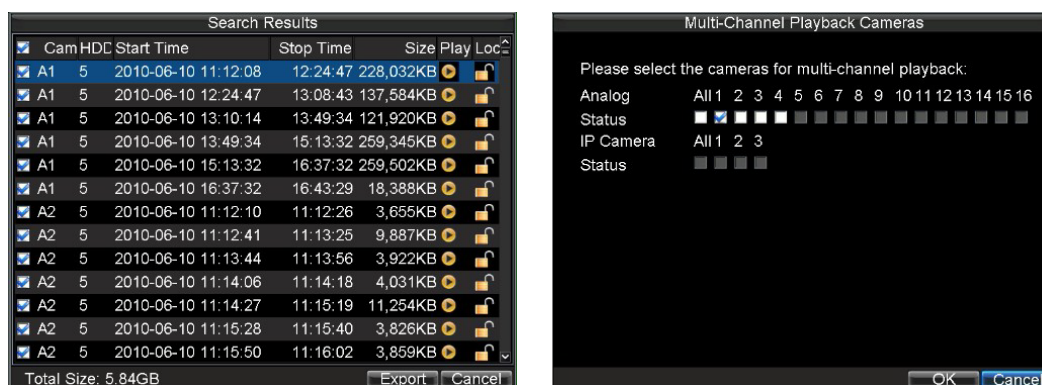

Figure 4. File and Channel Selection Menu
3. Click the Play button to start playback of all the files found with the specified search criteria or click the Search button to bring up the list of search results. After search results are presented, you can press play icon to enter multi-channel playback cameras selection, show in Figure 4.